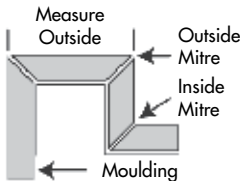

Figure 1.1
- Also note the placement and size of any doors, windows or openings in the room. It is also recommended that you identify each corner and the angle. (Figure 1.1)